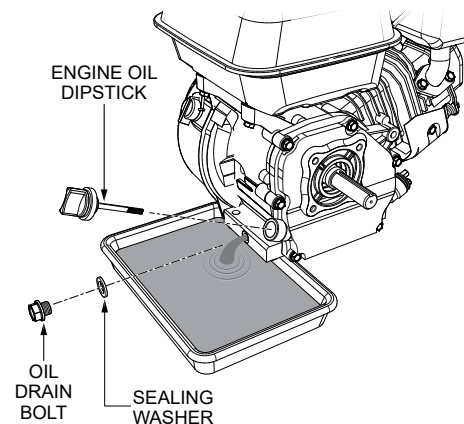

Figure 34. Draining Engine Oil
2. Drain the engine oil when the oil is warm as shown in Figure 34.